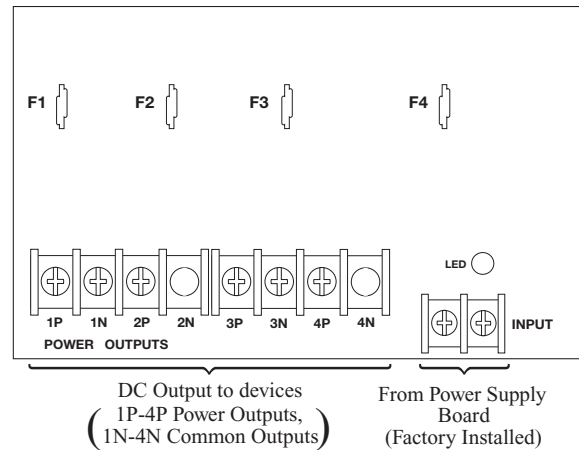

Fig. 3a
- For other Power Distribution Models: connect devices to be powered to the terminal pairs 1 to 4 marked [1P & 1N] through [4P & 4N] (Fig. 2a & 2b, pg. 5) or 1 to 8 marked [1P & 1N] through [8P & 8N] (Fig. 3a & 3b, pg. 5), carefully observing correct polarity.